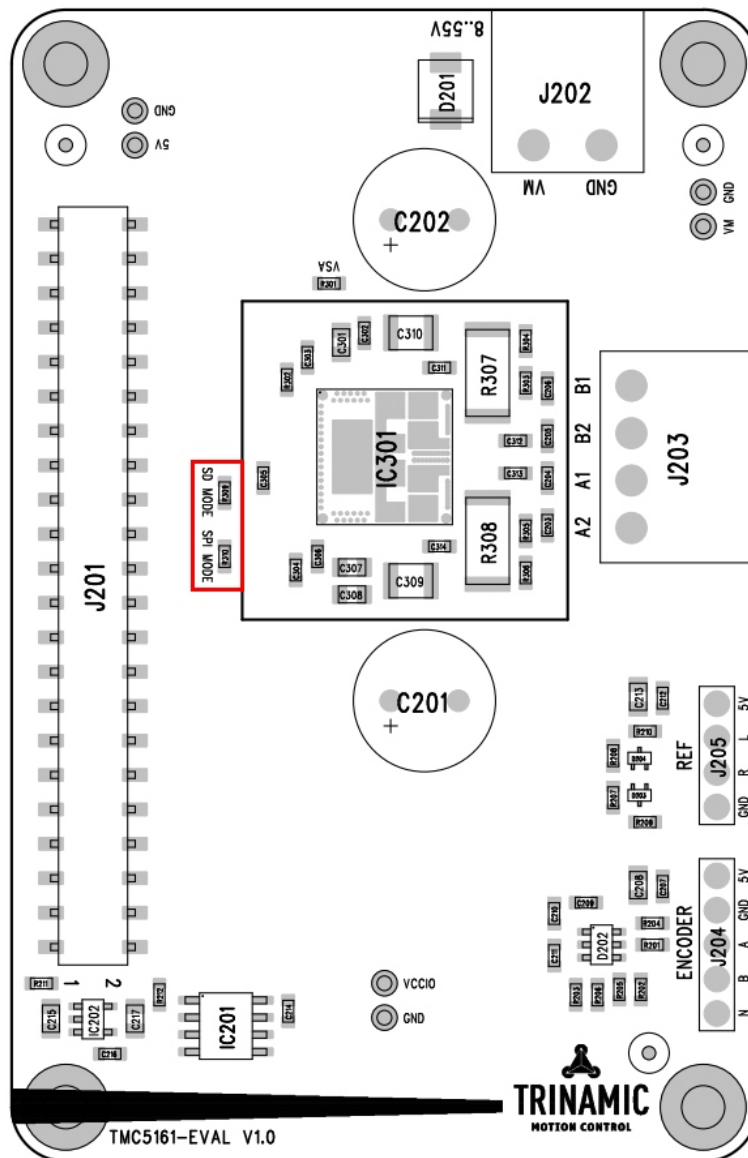

Figure 4: Solder Jumpers on TMC5161-EVAL
5. The TMC5161-EVAL provides 2 optional solder jumpers for the IC pins SD_MODE and SPI_MODE as highlighted in red in Figure 4. They are not assembled by default. They allow to use the TMC5161 in different modes: